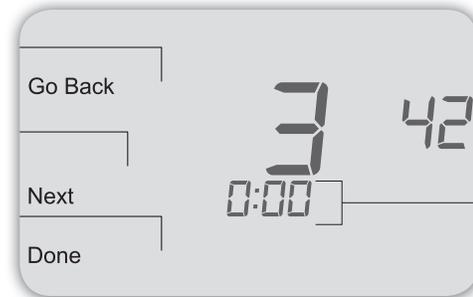

Figure 15. Service Menu 342 allows user to create a PIN access code.
5. In Service Menu 342, press ▲ / ▼ adjust values and create a three-digit PIN access code. The flashing three-digit code appears in the clock area (see Fig. 15).